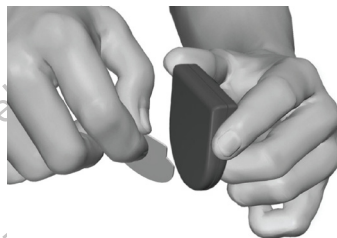

Figure 5. Peel the Clear Liner from the Adhesive Patch
2. Apply the Adhesive Patch to the backside of the Charger by peeling the clear liner from the patch and applying the white side with the blue stripe to the rear of the Charger (Figure 5).